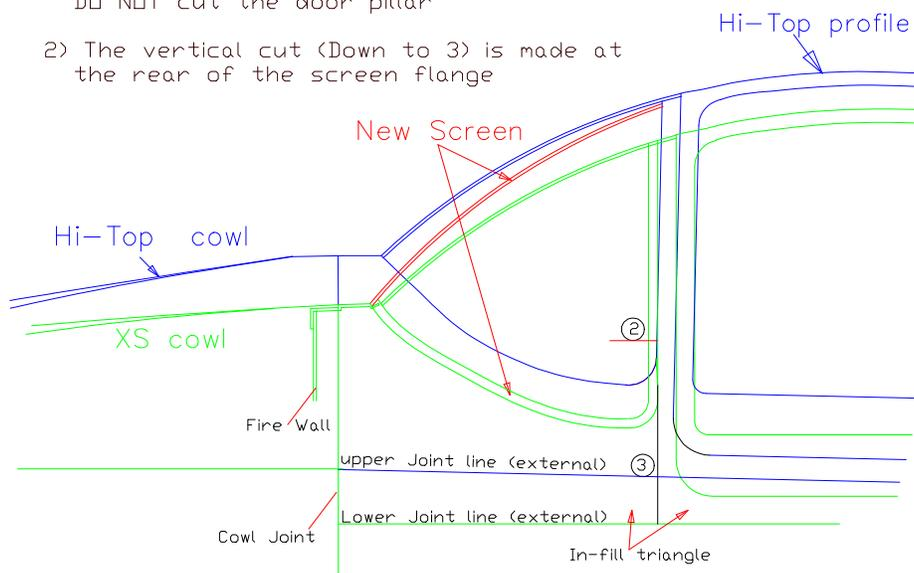

Fig 7 Detail of cuts to fuselage top
Mod 64B uses the original fuselage lower moulding and requires the front and lower portion of the windscreen frame to be separated from the main part of the upper moulding. This cut is best made after the top has been fitted as its presence helps with aligning the upper module to the lower. A horizontal (parallel to the lower edge of the original upper moulding) cut will be made through the screen flange at (2). A vertical cut (3) is then made beside the flange joggle down to the joint line. See Fig 7 below.
1) At (2) cut through the screen flange ONLY.
As can be seen from Fig 7 the angle at which the screen meets the top and bottom flanges is greater with the enlarged screen than the original screen. To achieve a good fit the forward edge of the top flange and the bottom edge of the screen should be relieved to obtain a good fit. If the top flange is weakened, by sanding too much away, it should be reinforced with further layers of "bid" (at $\pm 45^\circ$).